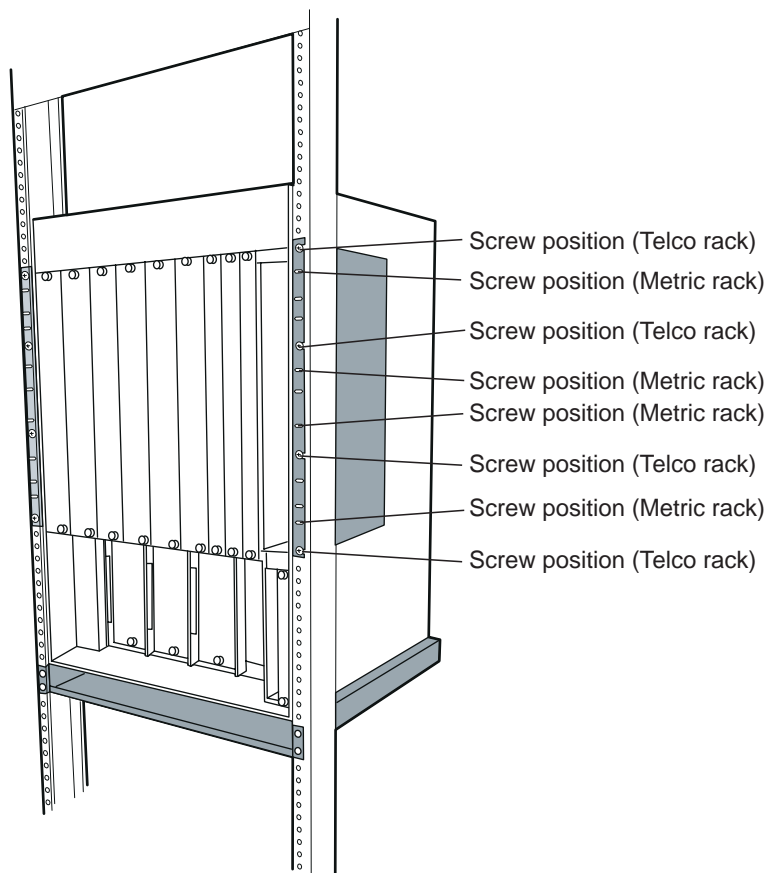

Figure 5. Telco and Metric Rack Screw Locations
Telco rack and Metric rack screw locations are shown in Figure 5
1. Install each of the 8 clip nuts provided onto each side of the front of the rack (4 clip nuts per rack mount flange). Install each clip nut behind a hole into which you plan to install a trusshead screw. (See Figure 5 on page 13.)
1. Install each of the eight clip nuts provided onto the front of the rack (install four clip nuts per rack mount flange). Install each clip nut behind a hole into which you plan to install a trusshead screw. (See Figure 5 on page 13.)